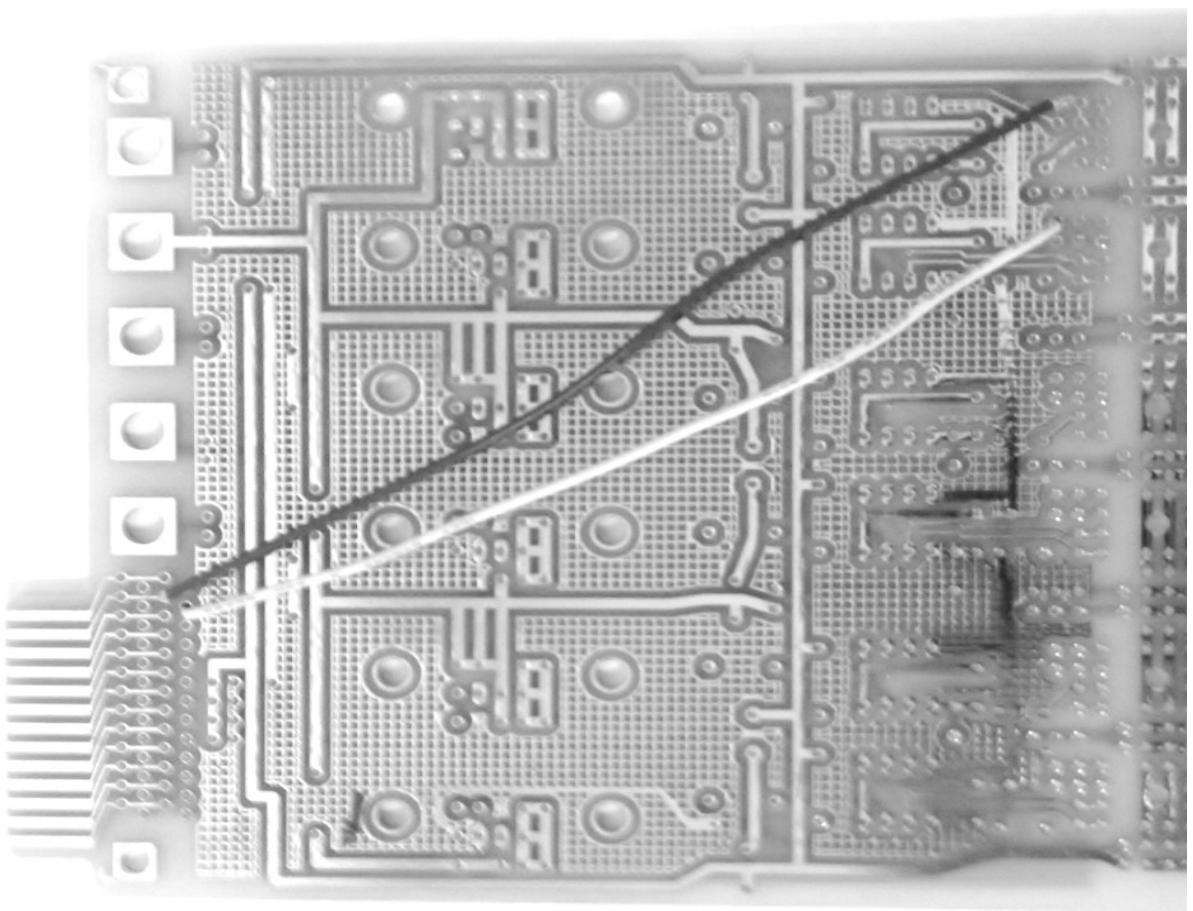

Figure 6. Testing Wire Connections
- 4- Place testing wires as shown in Figures 6, 7, and 8. These are 2 wires that run from IN section to Finger Connections. Be careful to not short the cables. Check the finger connections with multimeter to check for shorts.